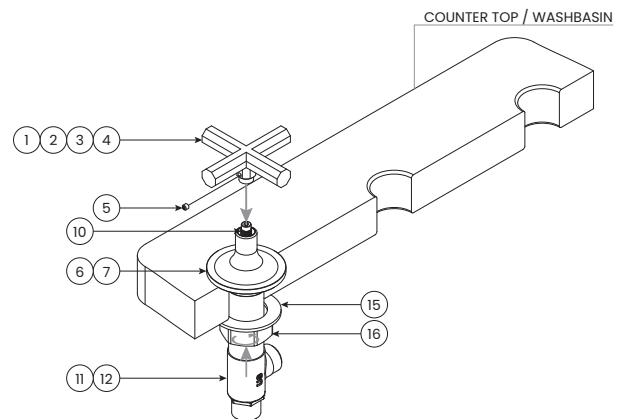

FIGURE 5.2
- 5.4 By hand, tighten Lock Nut (16) and Lock Nut Washer (15) to counter top or washbasin (Figure 5.2).*
- 5.5 Insert Handle (1, 2, 3 or 4) onto Broach Extension (10) (Figure 5.2).*
- 5.6 With the valve in the OFF position and the Handle (1, 2, 3, or 4) properly aligned as shown, fix the Handle to the Broach Extension (10) with the Set Screw (5), using the Allen Key provided (Figure 5.2).